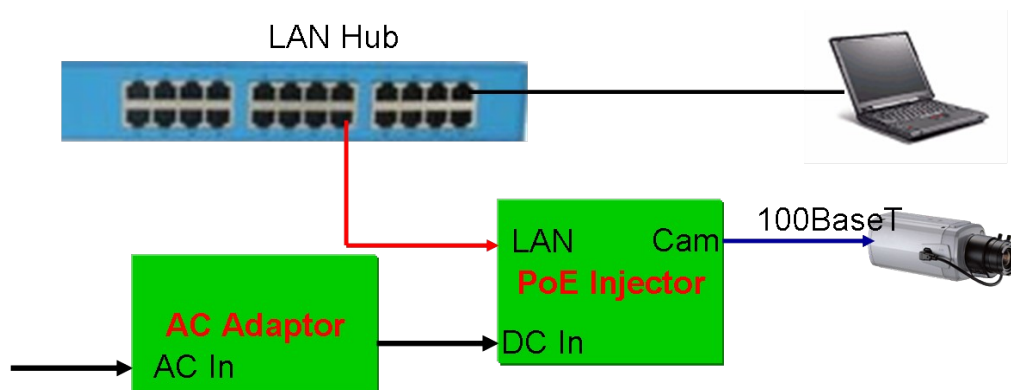

Figure 2-4. Connecting Video server and PC using PoE Injector
- 1) If you have power adaptor and PoE injector, connect the video server and PC as illustrated in Figure 2.4. Both power and network connection is made with a single LAN cable.